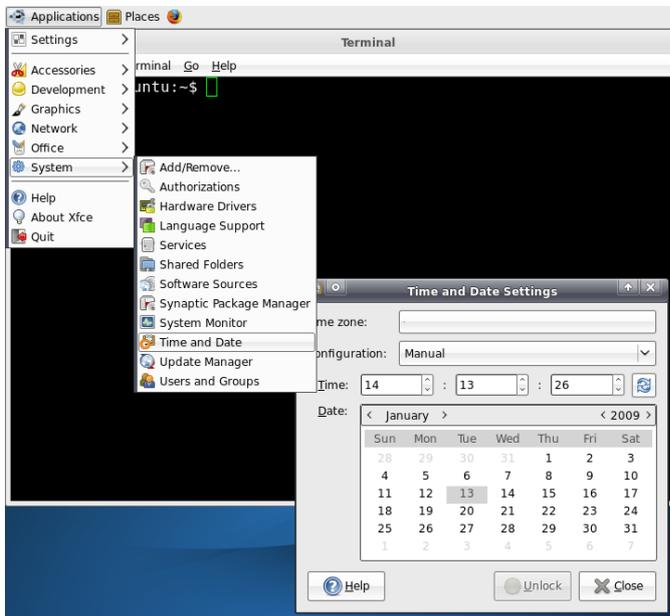

Figure 37: Adjusting the time zone
**Setting the time zone** takes place via a control panel of the system configuration which is as well directly callable from the start menu: "*Applications -> System -> Time and Date*" (see Figure 37). Since changing the time zone is an administrative activity, the dialog must first be released by using pushbutton "*Unlock*" (also see Figure 37). Therefore, the administrator password will be asked analog to the console command "*sudo*". By default, **password "vmware"** must be entered (also compare Table 9 in section 6.4). Afterwards, the capital and the corresponding time zone can be chosen via path "*Time zone*".